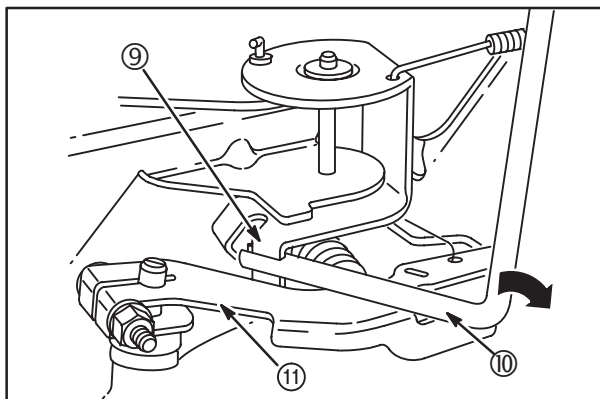

Fig. 23
11. With equipment control lever in **SLOW** position and engine running at governed idle, use Tang Bender #19352 (10), to bend throttle restrictor tang (9) so that it just contacts governor lever (11), **Fig. 23**.